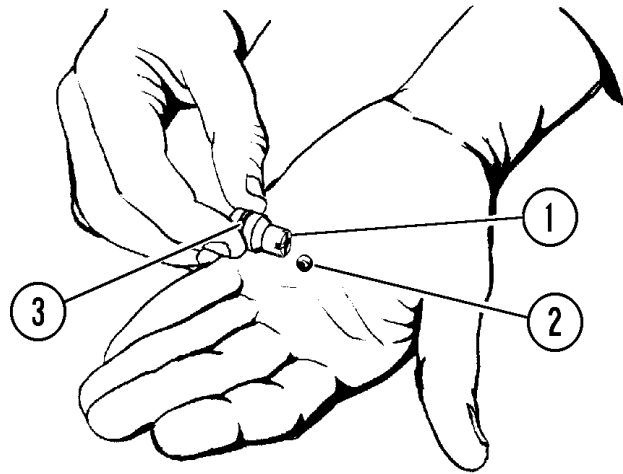

FIGURE 8-7. POPPET AND BALL
3. Remove poppet (1, Figure 8-7) from spool cover. Remove and discard O-ring (3).